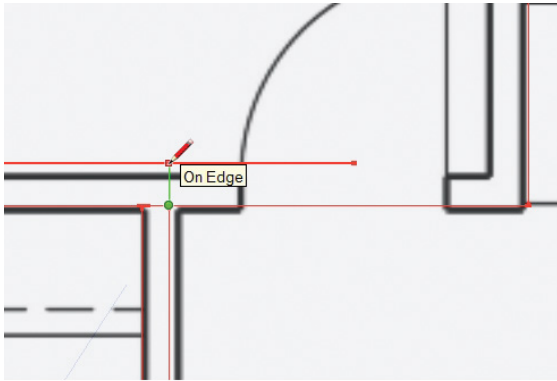

Figure 5-17: Add line length with the *Pencil*.
- ▶ Use the *Pencil* to add to lines whose endpoints can't be moved because they're attached to other geometry. This results in two lines: the original and the added (Figure 5-17).